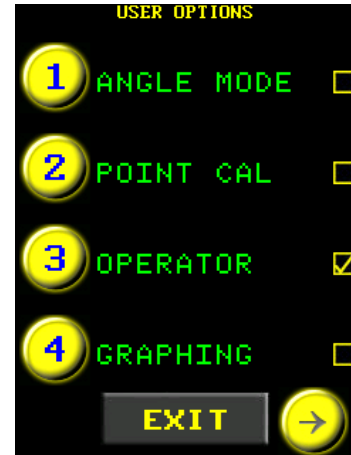

Figure 5.4-2: User Options Menu
3. Select "Operator PW" to toggle Operator Password on or off (Figure 5.4-2).